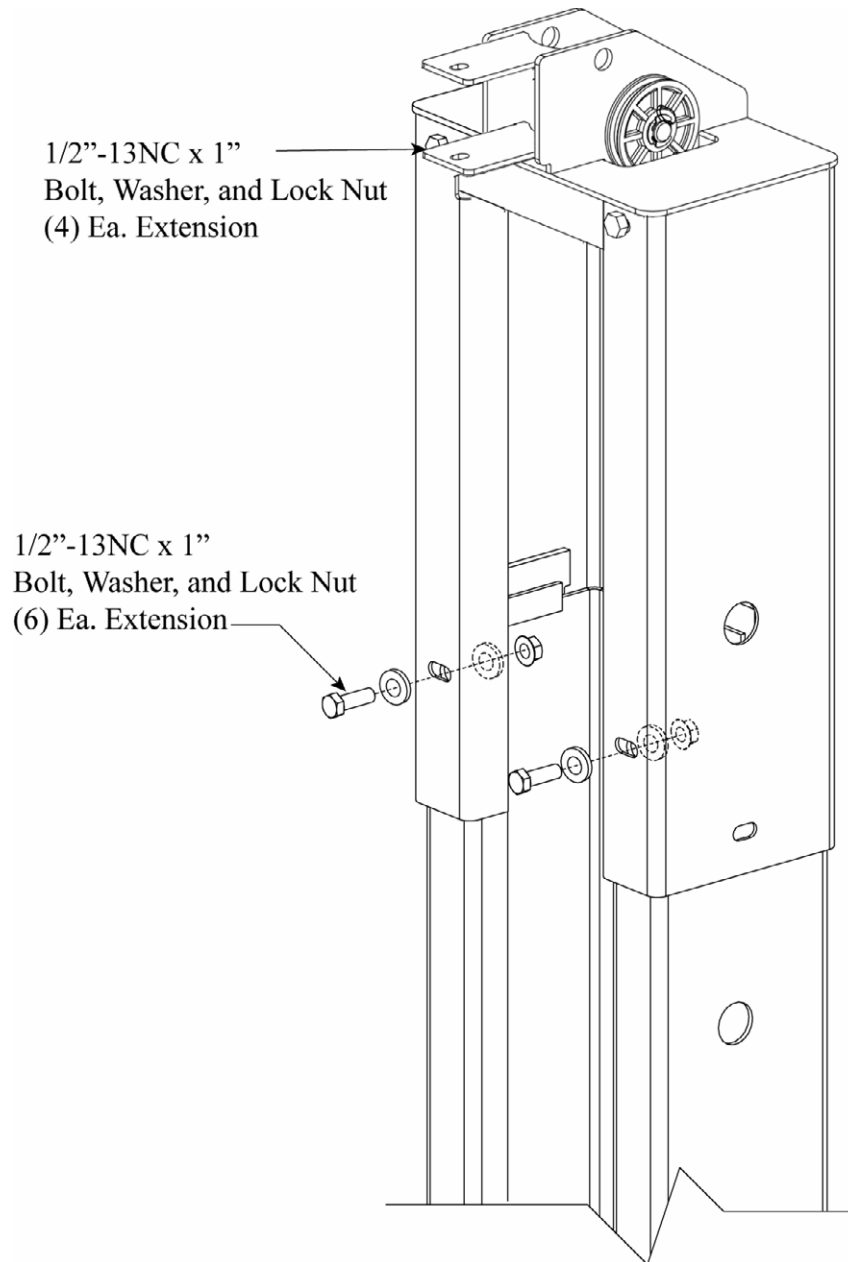

Figure 3
4. **Attach the uprights.** Attach the uprights to the legs using six ½"-13NC X 1" bolts, flat washers and lock nuts as shown in figure 3.